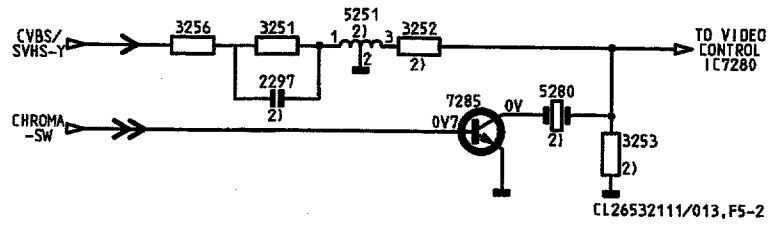

Fig. 5.2
5.2 Canal de luminance (Fig. 5.2)